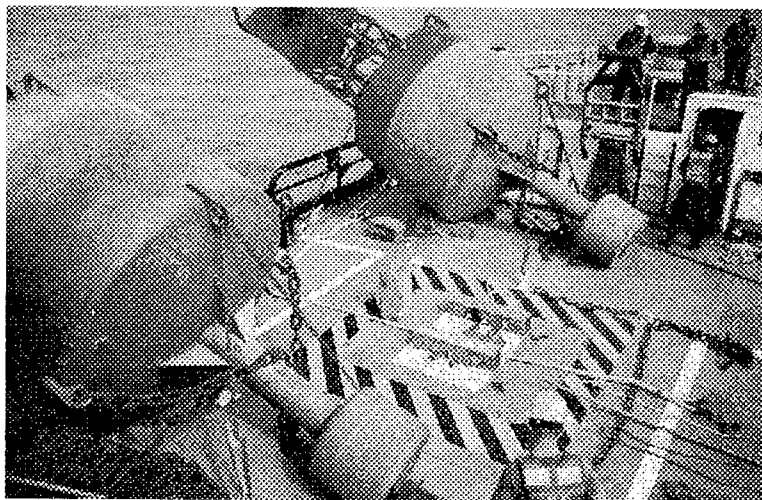

Fig. 8-2 Gripped down buoys
- d. It is important that all buoys are properly secured. They must be prevented from moving both athwartships, and fore and aft. With inexperienced personnel there is a tendency to be content with only securing the buoy downward to the deck. The result is that the gripes lead almost vertically from the buoy and there is only frictional resistance to movement of the buoy along the plane of the deck. All loads must be secured so opposing gripes prevent fore and aft and sideways movement of the load. It is better to spend time for adequate securing before going to sea than to attempt the dangerous job of securing a shifting deckload (See **Fig. 8-2.**)
Note: in Figure 8-2, only one gripe chain is shown. This is incorrect procedure.